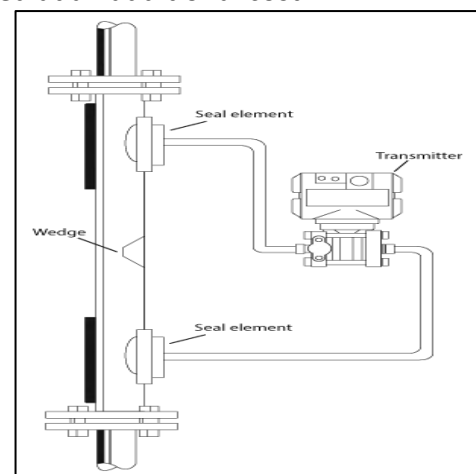

Fig 9: Vertical Installation
- As shown in Figure 9, vertical installations may introduce a slight hydrostatic head effect that must be considered when zeroing the transmitter.